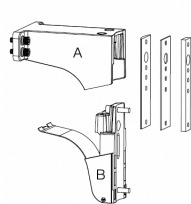
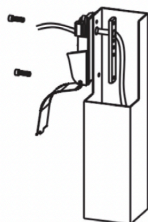
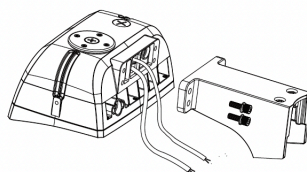

Fig. 1
Fig. 2
Fig. 3
1. Drill two (2) 10mm holes into the surface that the luminaire is being attached to.
2. Slide Part B out of the fixed mount assembly and affix it to the pole with two (2) 8mm Allen bolts. **NOTE:** If the pole is round, you must remove the inner round silicone gasket (Fig. 1 and Fig. 2). **Do not overtighten the bolt, the recommended torque value is 4.5 Nm (40 in/lbs).**
3. Remove and discard the ratchet arm by loosening the two (2) 8mm bolts that connect the mount to the bottom of the luminaire.
4. Route the wire leads through the Fixed Mount Part A and attach the luminaire to the Mount with the four (4) 8mm Allen bolts. (Fig. 3) **Do not overtighten the bolt, the recommended torque value is 4.5 Nm (40 in/lbs).**